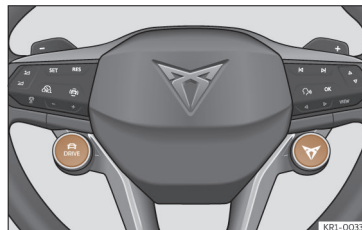

Fig. 111 Multifunction steering wheel: DRIVE and CUPRA buttons for selecting and changing the drive profile.
- **OR:** Press the **▽¹⁾** button on the multifunction steering wheel >>> **Fig. 111** to activate the **Cupra** drive profile.
- **OR:** Repeatedly press the **DRIVE¹⁾** button on the multifunction steering wheel >>> **Fig. 111** to switch between drive profiles.